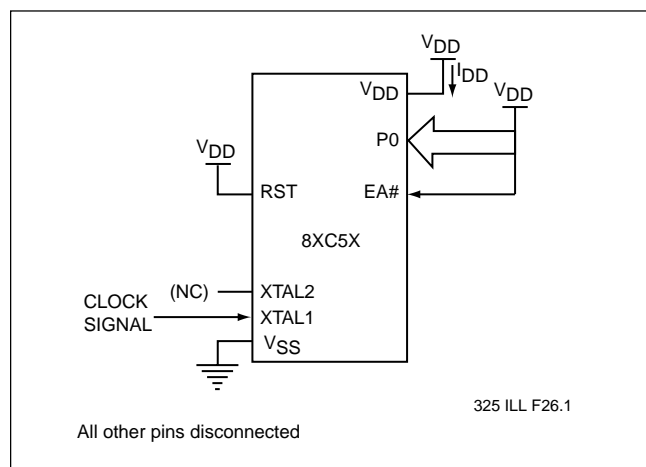

FIGURE 20:  $I_{DD}$  TEST CONDITION, ACTIVE MODE
6. See Figures 20, 21, 22 and 23 for test conditions. Minimum  $V_{DD}$  for Power Down is 2 V.